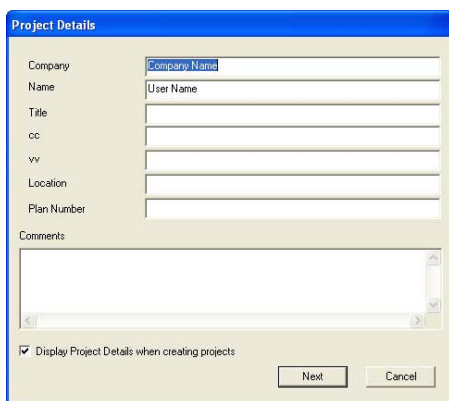

Figure 5-4. Project Details
1. In the **Project Details** dialog box (Figure 5-4), type project information in the empty fields, and then press **Next**.